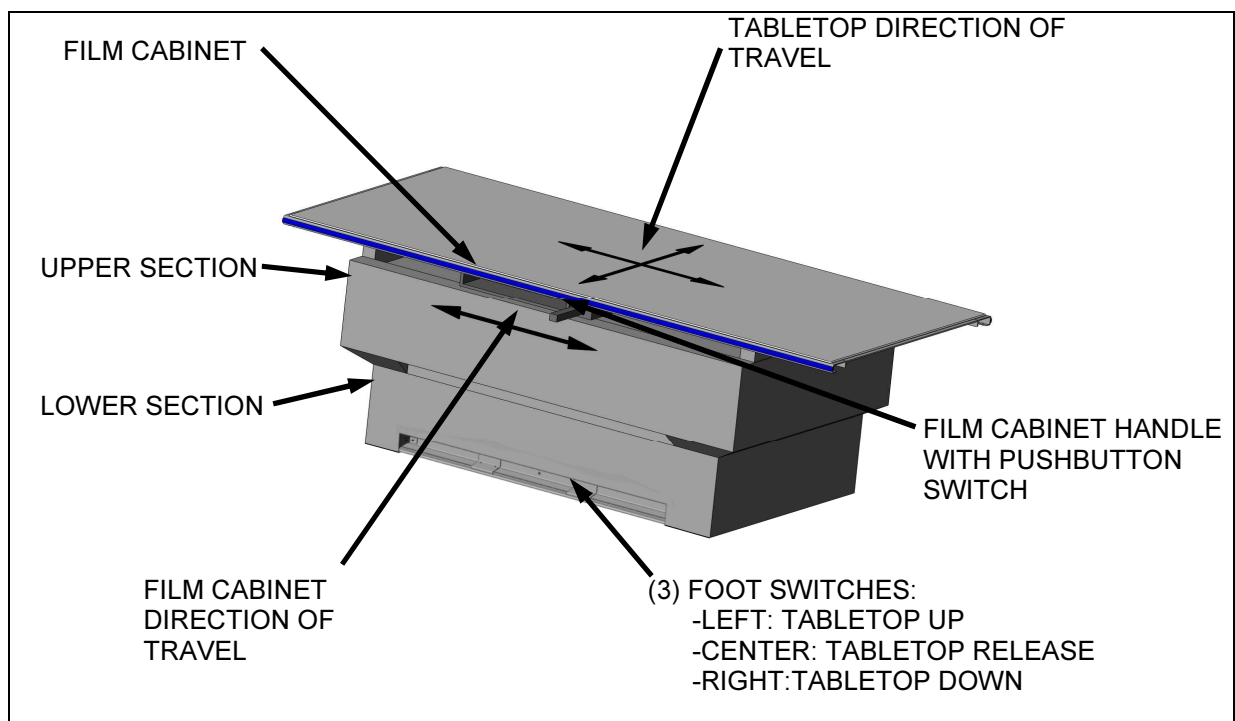

Figure 1: Elevator Table
TABLETOP OPERATION (FOOTSWITCH; SEE FIGURE 1)
1. To release the electric brake securing the film cabinet in position, depress the pushbutton switch on the film cabinet handle (See Figure 1). The film cabinet will be free to move laterally.